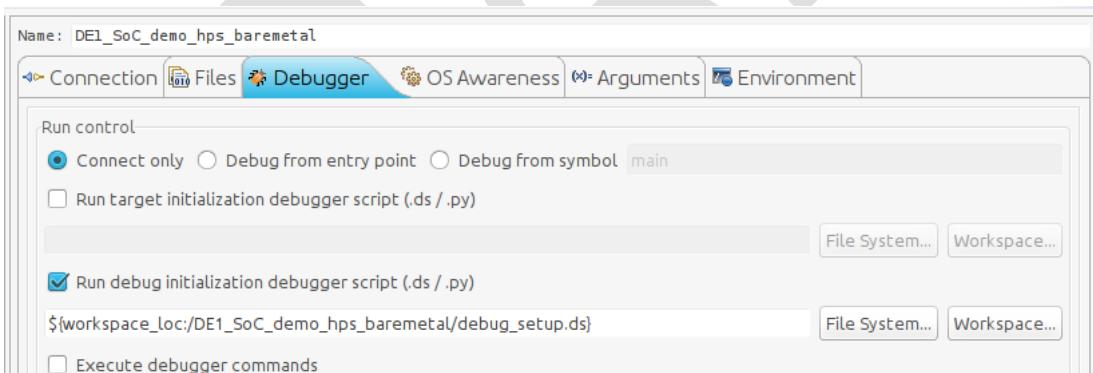

Figure 8-31. Debug Configuration "Debugger" Tab
- Enable the “Run **DEBUG** initialization debugger script (.ds / .py)” checkbox. Set the debug script to the one we defined for the project in 8.4.2.1.3.2. You should have something similar to Figure 8-31.